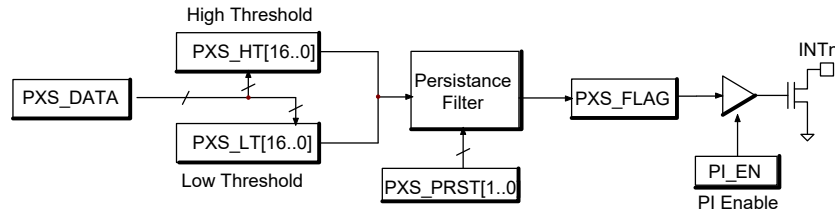

Fig. 5 Interrupt scheme
PXS interrupt flag (PXS_FLAG) is governed by the low and high threshold stored in register through 0x06 and 0x09. To further control when an interrupt occurs, SY3016PS32-G00 provides a persistence filter which allows the user to specify the number of consecutive readings to meet interrupt conditions before an interrupt is generated. If PI_EN is set, then the INTn pin will also assert. If not, INTn will be in high impedance (HZ) state and irrelevant to PXS_FLAG status. Figure 5 shows the logic connections of different blocks to generate an interrupt. $INTn = \neg (PXS_FLAG \&\& PI_EN)$